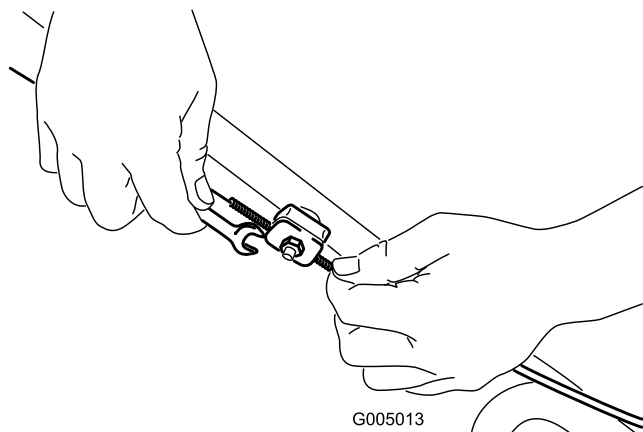

Figure 32
1. Loosen the cable support nut (Figure 32).